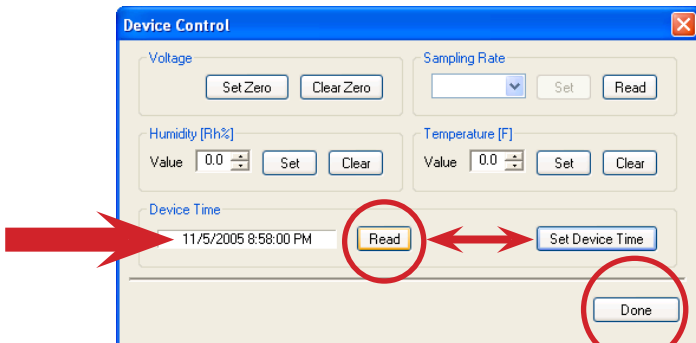

Figure 19: Use Edit drop down Menu to Access Device Control Window for setting Set PGA-710 Date & Time
2. Select Device Control and a Device Control window (Figure 19) appears on the screen.